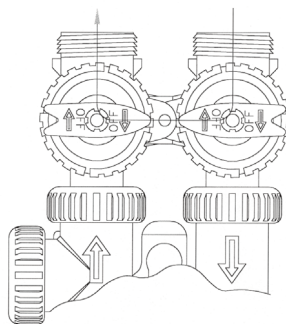

Figure 10: Bypass Mode
2. Place the bypass valve in the "bypass" position or mode (see figures 10 & 11 below.)